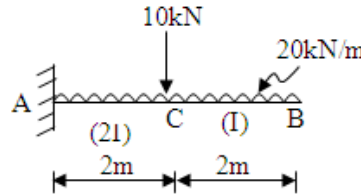

Fig.5
- (c) Find slope & deflection at free end of the beam shown in Fig.5 by Moment area method. $E = 200 \text{ GPa}$ and $I=16500 \times 10^4 \text{ mm}^4$. **07**